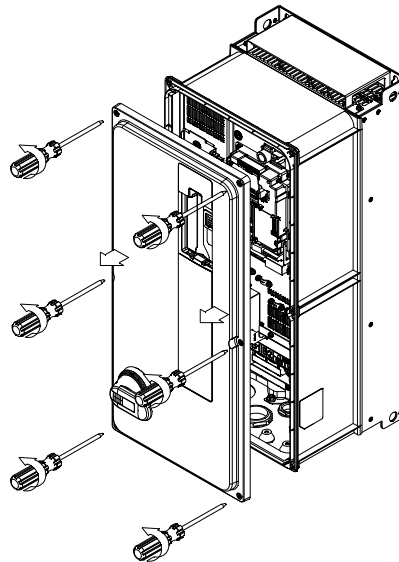

Figure 6-11
- 2) Loosen the screws and press the tabs on both sides to remove the cover. (As shown in figure 6-11)